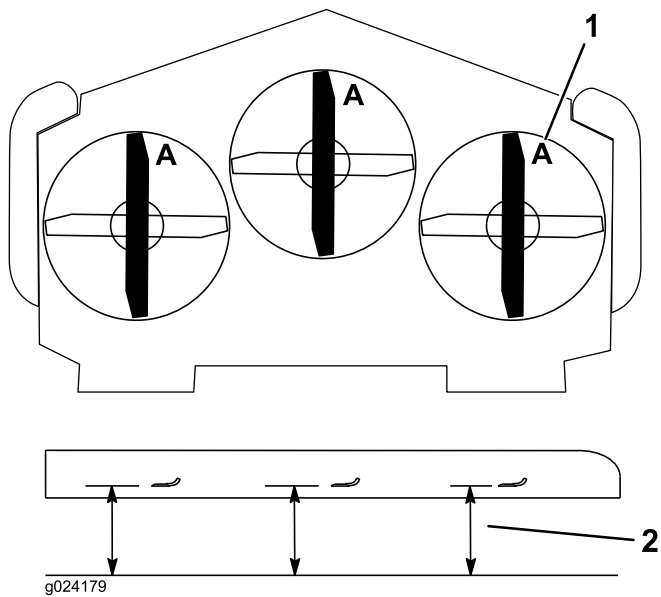

**Figure 96**
1. Inspect the cutting edges (Figure 96). If the edges are not sharp or have nicks, remove and sharpen the blades. Refer to Sharpening the Blades (page 60).
2. Inspect the blades, especially the curved area (Figure 96). If you notice any damage, wear, or a slot forming in this area (Figure 96), immediately install a new blade.